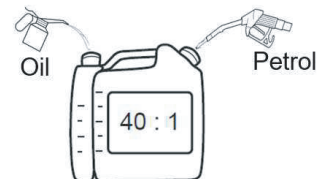

Fig. 13
1. Mix a regular-grade unleaded petrol and a quality engine oil for air cooled 2-stroke engines in the supplied fuel mixing bottle (30) (Fig. 13).